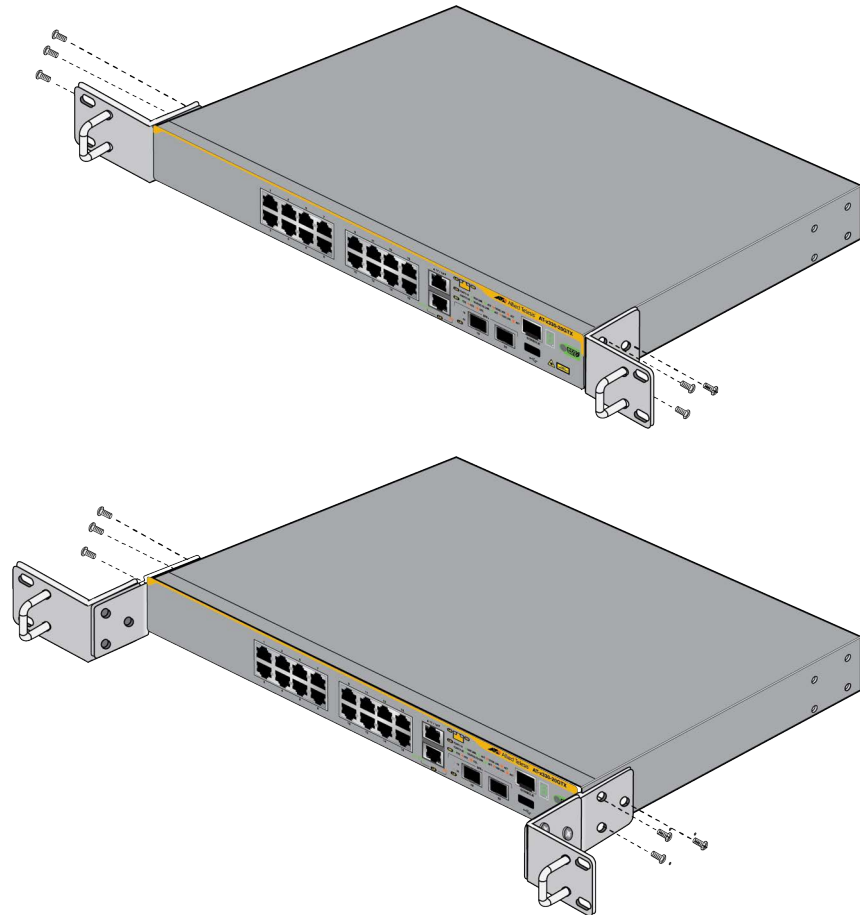

Figure 38. Attaching the RKMT-J13 Brackets to the x330-20GTX Switch
5. Attach the brackets to the sides of the switch with six 4x8mm screws included in the kit. Refer to Figure 38.